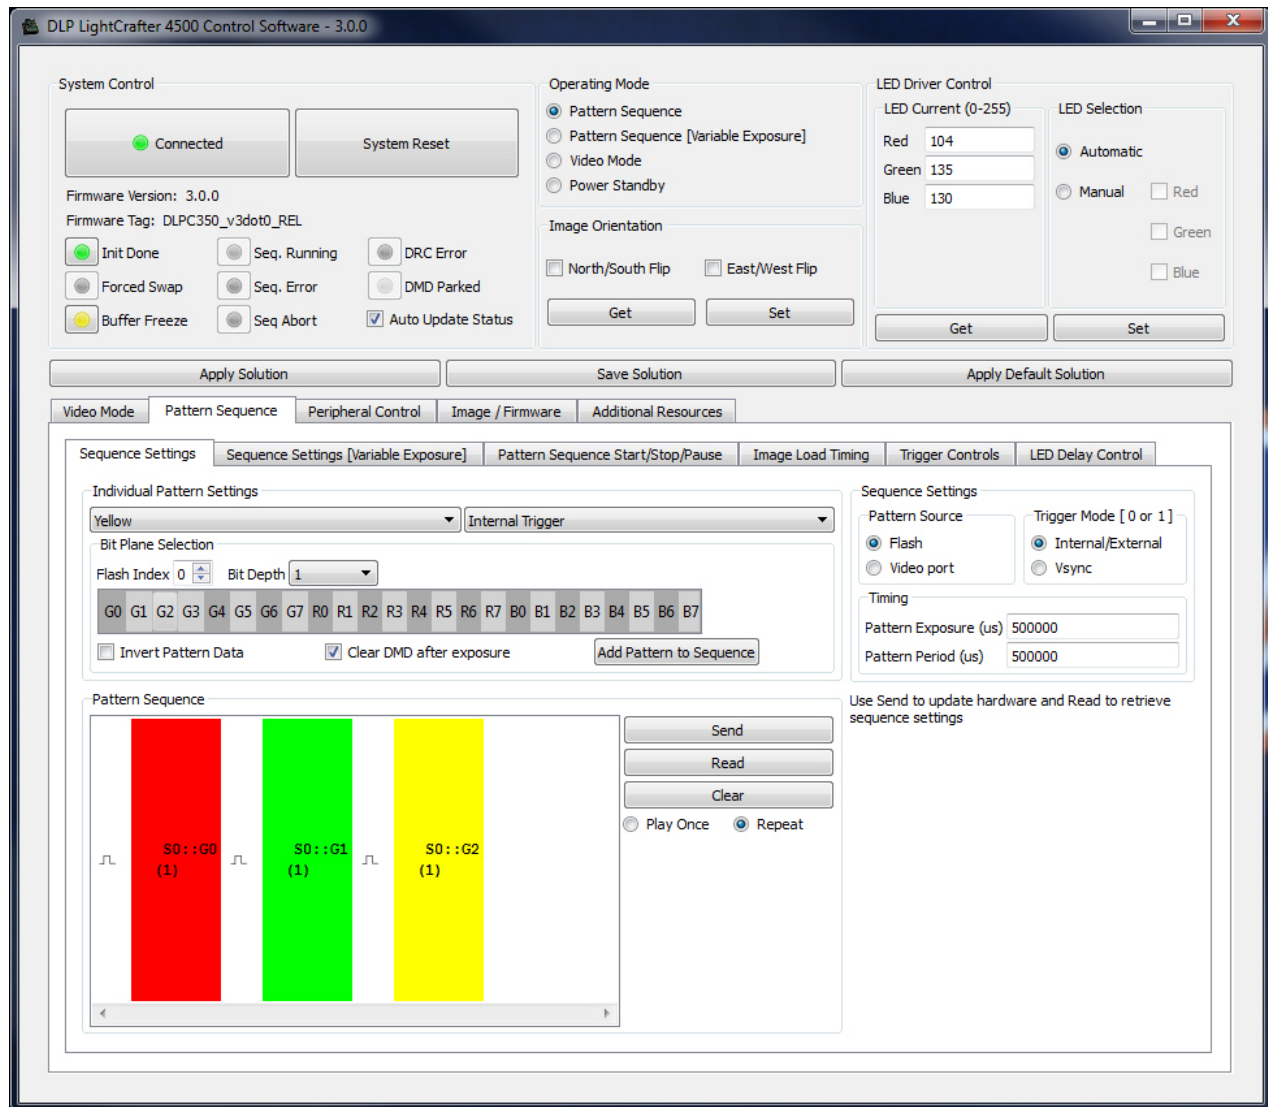

Figure 3-5. DLP LightCrafter 4500 GUI – Pattern Sequence Mode
A pattern sequence is composed of several patterns loaded from flash memory or streamed through the 24-bit RGB video port. Each individual pattern can have a specific set of LEDs illuminating it, a particular bit-depth, and an internal or external trigger. The *Sequence Settings* subtab lets the user define and set all the *Individual Pattern Settings*. The *Trigger Controls* subtab and the *LED Delay Control* subtab set the trigger and LED enable edge timings, respectively. The *Pattern Sequence Start/Stop/Pause* tab shows the pattern sequence validation status indicators and allows the user to play, pause and stop the sequence. Figure 3-5 shows the DLP LightCrafter 4500 GUI with the *Pattern Sequence* tab selected.
6. If the patterns sequence must be played once, set Play Once in Figure 3-5. This setting will play the number of patterns set in *Trigger Controls* subtab under **Trigger 2 Patterns per pulse**. If set to 1, it plays the first pattern in the sequence and stops. If set to 10, it plays the first 10 patterns in the sequence. If the pattern sequence is to continuously repeat, set repeat. Make sure to click the **Send** button after clicking on *Play Once* to download the new settings.
The *Pattern Sequence* section in the *Sequence Settings* tab shows the pattern sequence as a set of colored rectangles. The color corresponds to the LEDs used. The entries on the rectangles represent the image source, the bit-plane, and the bit-depth as follows: S0::G0 (1) indicates flash location 0, bit-plane = G0, bit-depth = 1. F2::G5 (3) indicates Frame 2, bit-plane = G5, bit-depth = 3. For example, in Figure 3-5, a pattern sequence of three patterns is displayed. Each pattern is triggered every 500 ms and exposed for 500 ms. The first pattern is a 1-bit red pattern using bit-plane G0 from flash location 0. The second pattern is a 1-bit green pattern using bit-plane G1 from flash location 0. The third pattern is a 1-bit yellow pattern using bit-plane G2 from flash location 0.